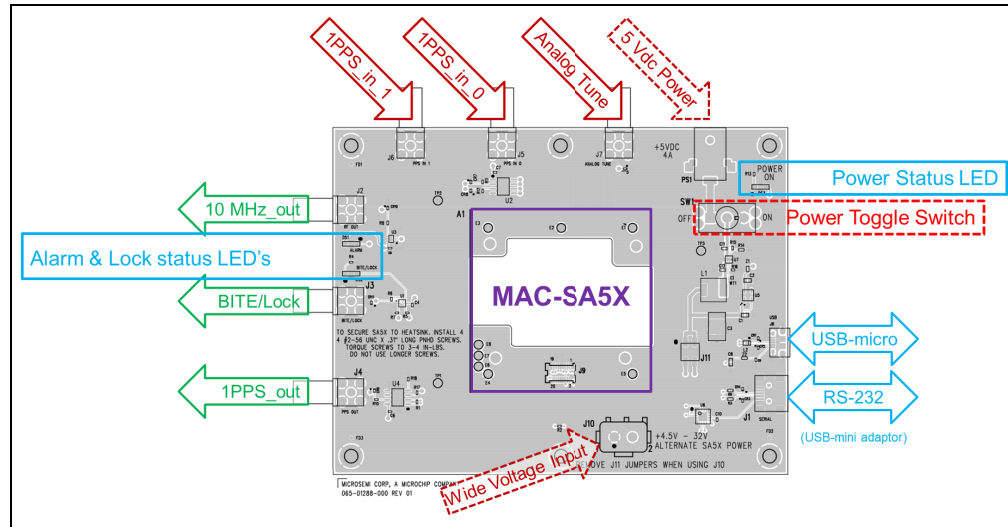

FIGURE D-2: PCBA/Baseplate Physical Connections.
The PCBA/Baseplate consists of a 3.9" x 5.1" aluminum heat sink/baseplate attached to a PCBA with six mounting screws. All connections are on the PCBA. The physical connections of the PCBA/Baseplate are highlighted in Figure D-2.
The Evaluation board has two USB connections for communicating between a PC and a MAC-SA5X (blue arrows in Figure D-2). The "RS-232" connection accepts a USB-mini(M) connector that then passes to a serial converter on the Evaluation board and applies the appropriate levels on pins 7,8 of the MAC. A USB 2.0-to-USB-mini cable is provided in the kit.